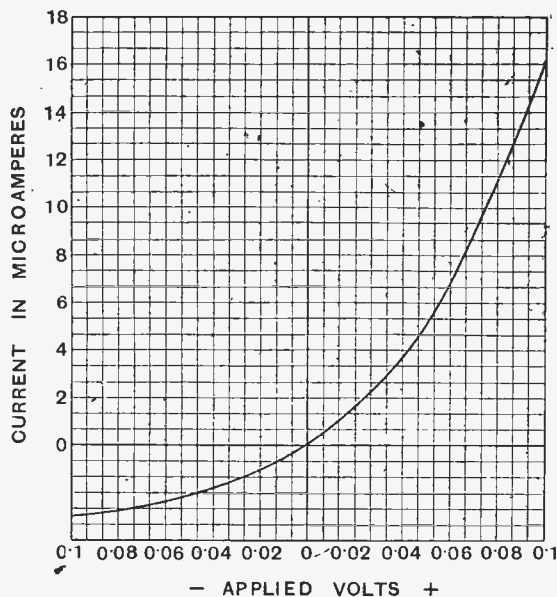

Fig. 2.—A characteristic for inputs up to 0.1 volt.
i.e., up to about 0.1 volt in amplitude, a suitable enlargement of the relevant part of the characteristic will give a curve like that in Fig. 2. For such a curve the current can be expressed very approximately in terms of powers of the voltage up to the fourth. This is useful from a theoretical point of view, since it permits of the calculation of the behaviour of the detector under any specified conditions.